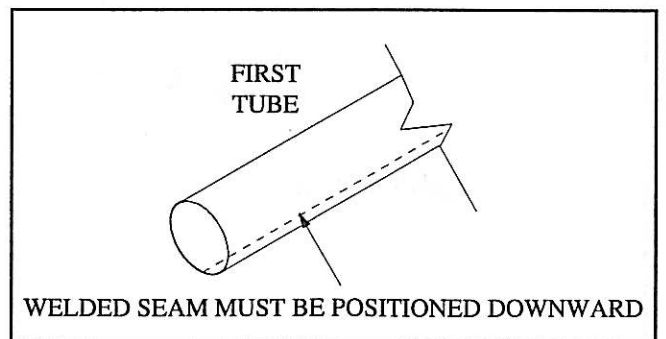
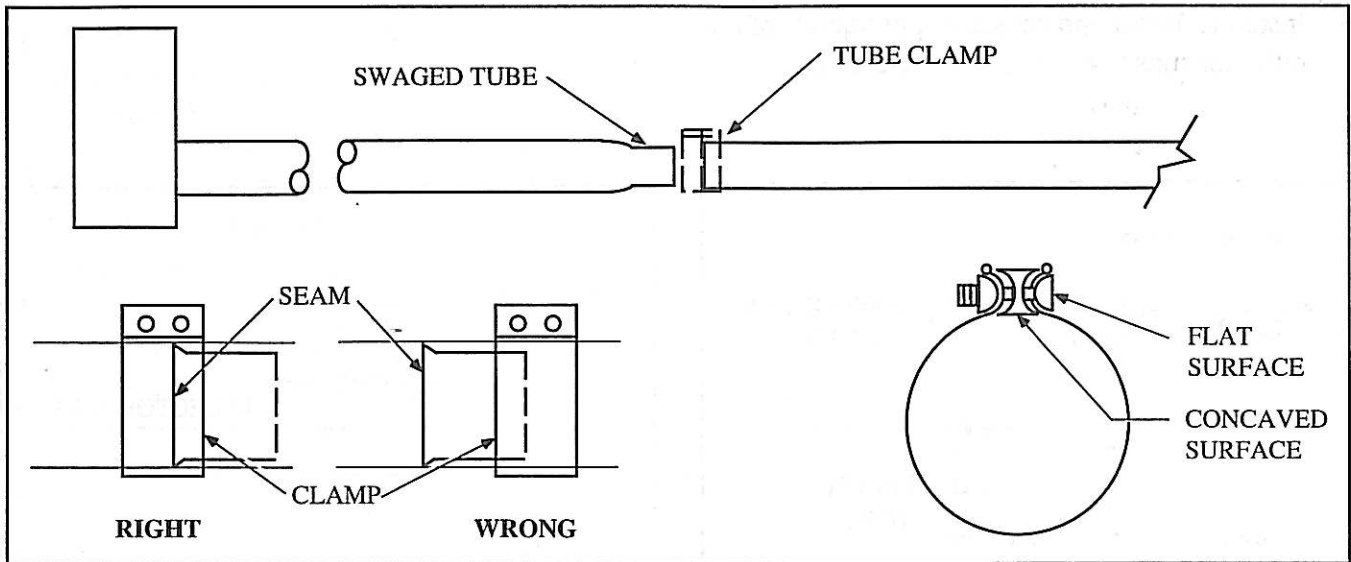

Figure 2-7
Figure 2-8
3. Mount hangers on approximately 10-ft centers. Slide tubes through hangers with weld seam downward (see Figure 2-7) and fasten with tube clamps (see Figure 2-8). Center clamps on seams.
NOTE: The tube clamps provided with the heater are pre-assembled at the factory. If a clamp is dismantled, it is important that upon reassembly the spacer is properly inserted (see Figure 2-8). The spacer's concave surface **must** face the radiant tube. Incorrect spacer placement will result in shearing of the bolt when torqued to the recommended specifications (50 – 70 lb-ft).